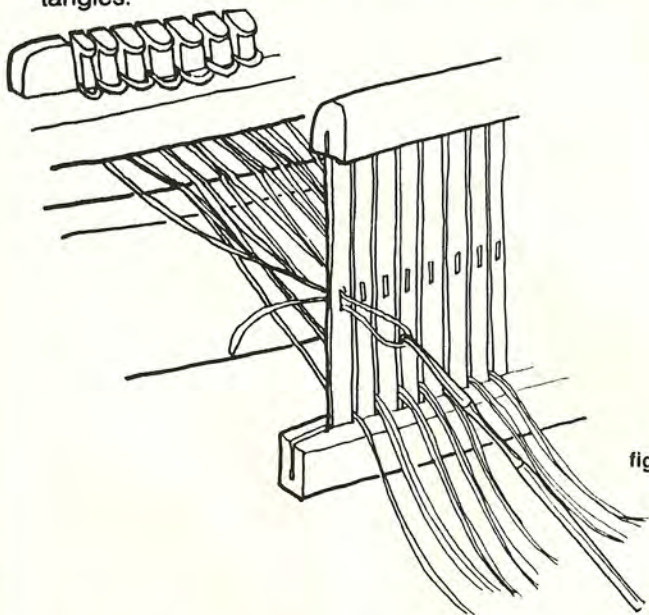

fig. 10
6. Thread the holes in the heddle by pulling one warp end out of each slot and inserting it into the adjacent hole using the hook provided (fig. 10). Be careful to hook the ends of the threads only, so as not to weaken them.